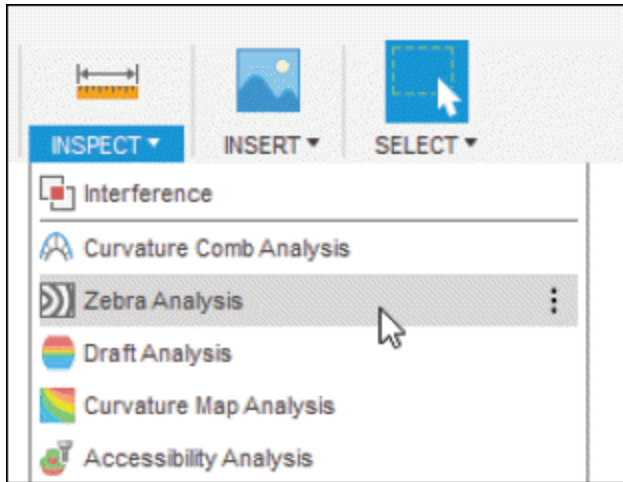
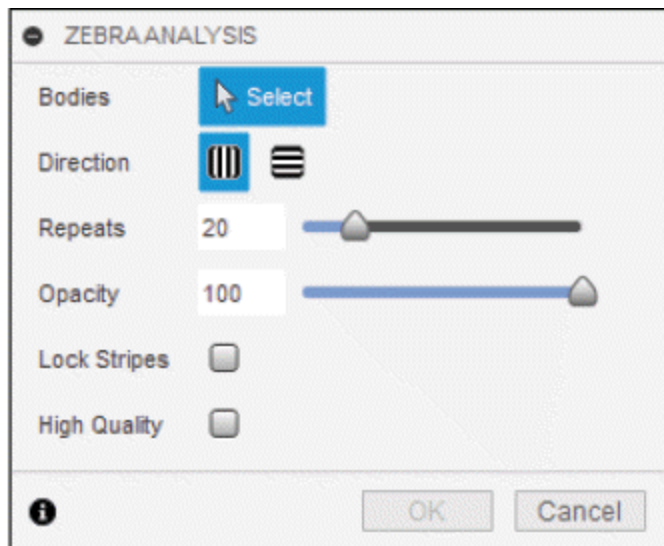

Figure-44. Zebra Analysis tool
Figure-45. ZEBRA ANALYSIS dialog box
- Click on the **Zebra Analysis** tool of **INSPECT** drop-down from **Toolbar**; refer to Figure-44. The **ZEBRA ANALYSIS** dialog box will be displayed; refer to Figure-45.